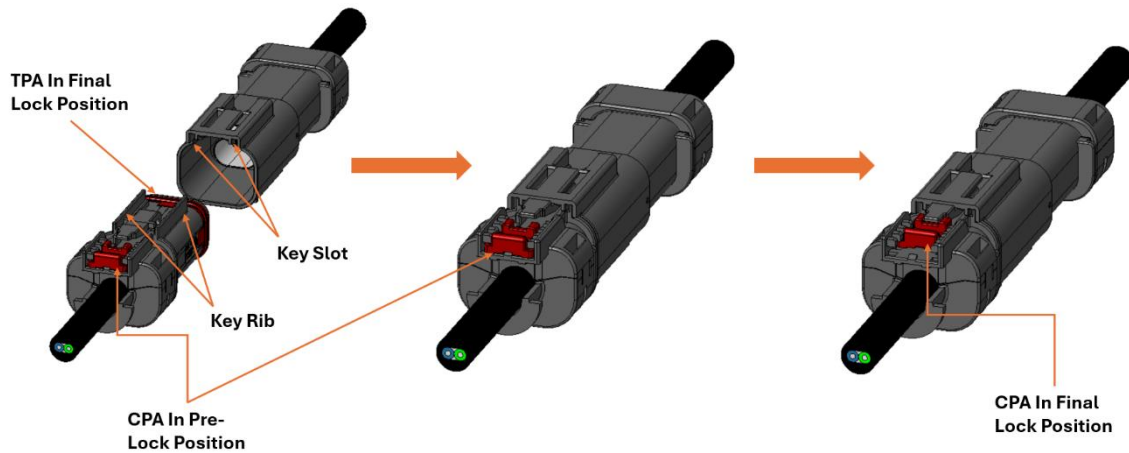

Figure 5.a: Assembly of socket connector to pin connector
- C.** Then align the connector as shown in figure 5.a the key rib on the socket assembly/blind plug assembly should align with the key slot on the mating counterpart.
- E.** Once the connector is fully mated, push CPA to the final lock position. there should be an audible or tactile “click” when the CPA is fully locked. refer to figure 5.a for details.